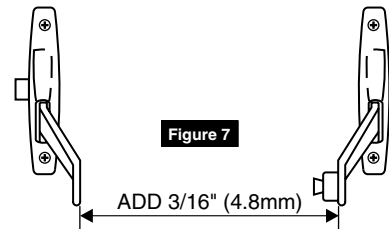

Figure 7
1. Measure distance between bottom of levers then add 3/16" (4.8mm) and cut crossbar to this measurement. (Figure 7)